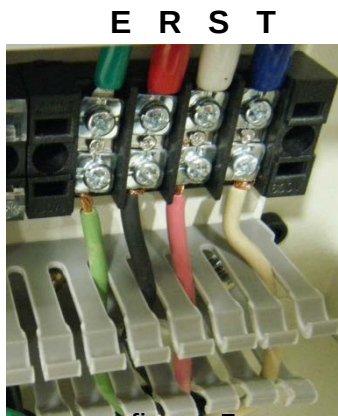

figure 5
- For three phase, connect the three power wires as shown in fig. 5 to terminals R, S & T. Connect the ground wire (typically green) to the E (Safety Ground) terminal.